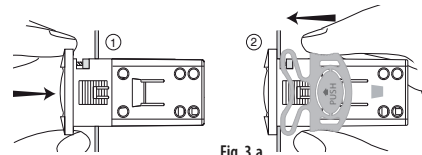

Fig. 3.a
3.1 Panel installation using 2 rear brackets (Fig. 3.a)
- insert the instrument in the opening; ①
- secure the instrument by sliding the brackets in the guides on the instrument until compressing them against the panel ②